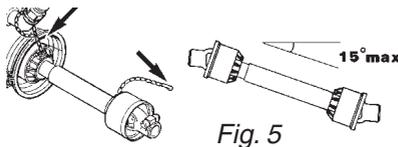

Fig. 5
7. To ensure long life of the P.T.O. shaft, try to avoid working angles greater than 15° (Fig. 5).